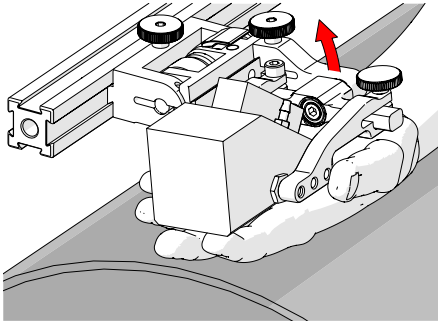

Fig. 61 - Lift to latched position
1. Ensure the probe holder is in the latched, upper position (Fig. 61). If the probe holder is already latched, it will only move within the slip joint adjustment range and have no spring tension.
1. Ensure the probe holder is in the upright latched position (Fig. 61).